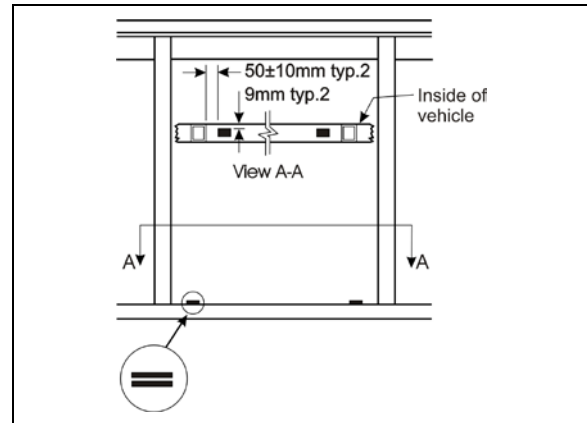

FIGURE 61: AWNING WINDOW - RUBBER BUMPER INSTALLATION
2. Glue on the structure horizontal member, 4 rubber bumpers (#5061020), placing them 2 by 2 to have a total thickness of 1/16" (Figure 61).